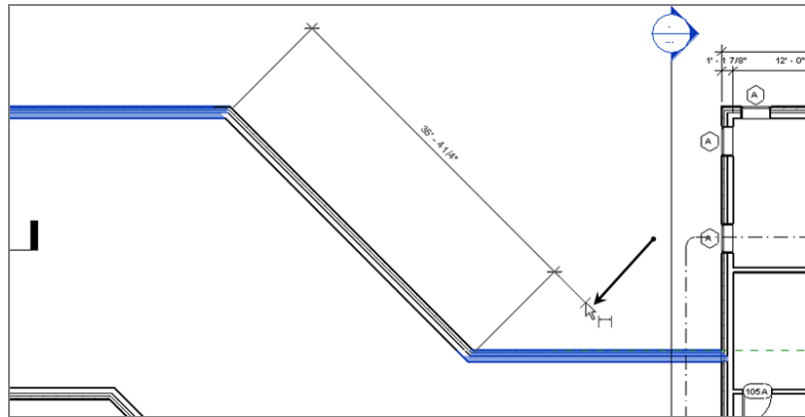

FIGURE 5.11: Picking the second point along the wall and placing the dimension
8. Hover your cursor over this core intersection, as shown in Figure 5.11.
11. Now the dimension is following your pointer. Pick a third point about 8' (2400mm) away from the angled wall (see Figure 5.11).